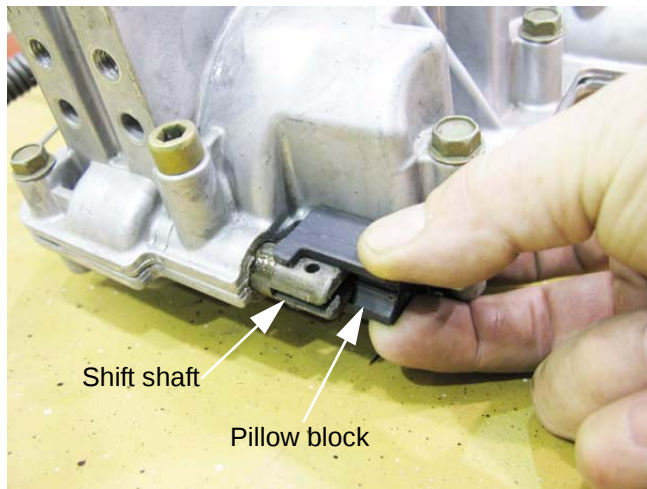

Figure 6.86
3. Slide the shift-shaft pillow block off of the shift shaft. See Figure 6.86.